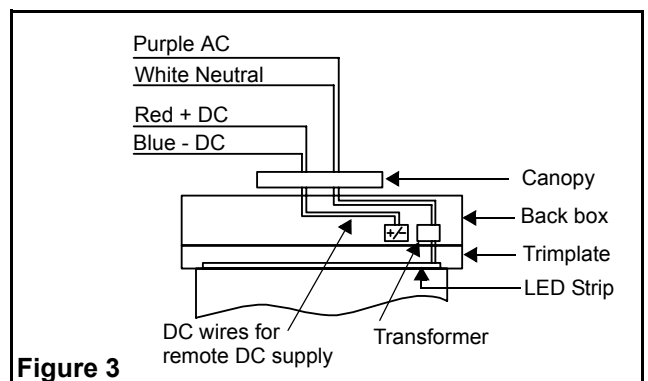

Figure 3
10. Make the proper connections. Our system can accept input voltages of 120 VAC to 347 VAC. Therefore, connect the purple (hot) and white (neutral) leads to the building utility (see fig. 3).
Refer to fig. 3 for AC & DC wiring.